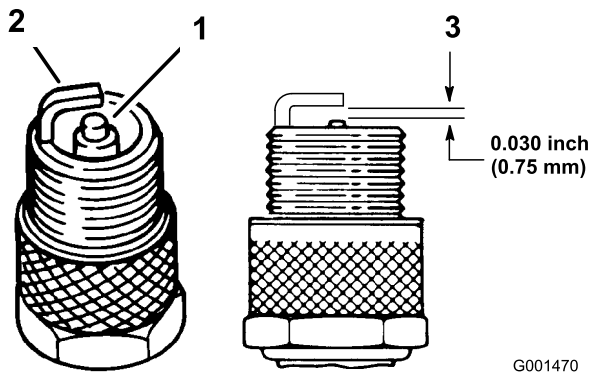

Figure 31
- Check the condition of the side electrode, center electrode, and center electrode insulator to ensure that there is no damage (Figure 31).
4. Set the air gap between the center and side electrodes at 0.030 inch (0.762 mm) (Figure 31).